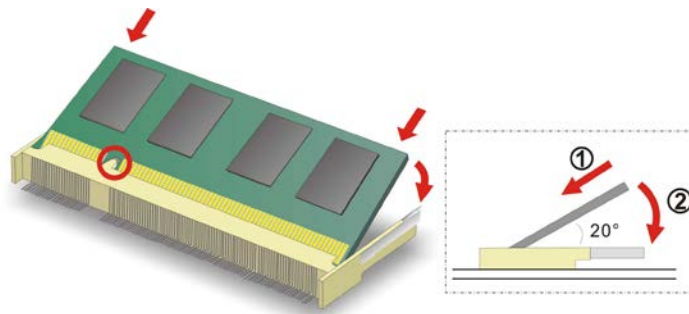

Figure 4-1: SO-DIMM Installation
To install an SO-DIMM, please follow the steps below and refer to Figure 4-1.
- Step 3:** **Insert the SO-DIMM.** Push the memory in at a 20° angle (**Figure 4-1**).
- Step 4:** **Seat the SO-DIMM.** Gently push downwards and the arms clip into place (**Figure 4-1**).